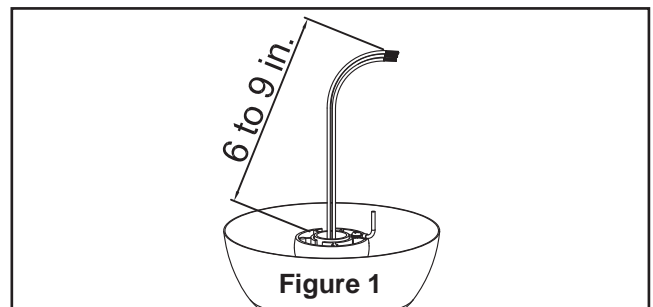

Figure 1
1. Cut off excess lead wire approximately 6 to 9 inches above top of the downrod. Strip insulation off 1/2 inch from the end of each lead wire. (Figure 1)
To avoid possible electrical shock, be sure electricity is turned off at the main fuse box before hanging. (Figure 1)